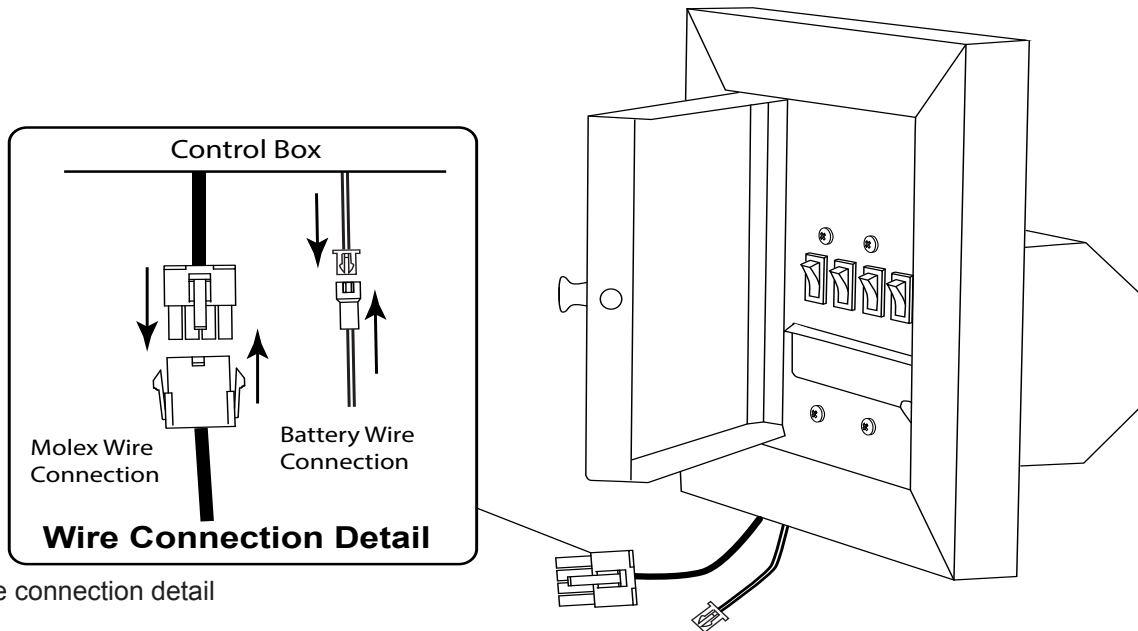

Fig. 17 Wire connection detail
Step 7: Feed the wire harness (# 77113) up to the control box and attach the Molex connectors from the module wire harness to the control box wire harness. At the same time, connect the 2-PIN connector (#VCS-ECOBBUEXT32) from module wire harness to the 2-PIN connector inside the control box. See Fig. 17. Refer to page 16 Fig. 14.